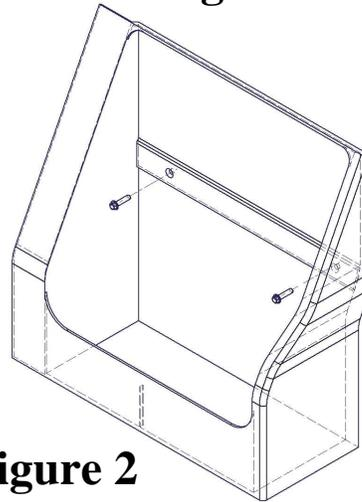

Figure 2
3. Remove the (2) OEM bolts that hold the plastic cubby in place, and store them for future use if you wish to return the vehicle to factory condition.(See Figure 2)